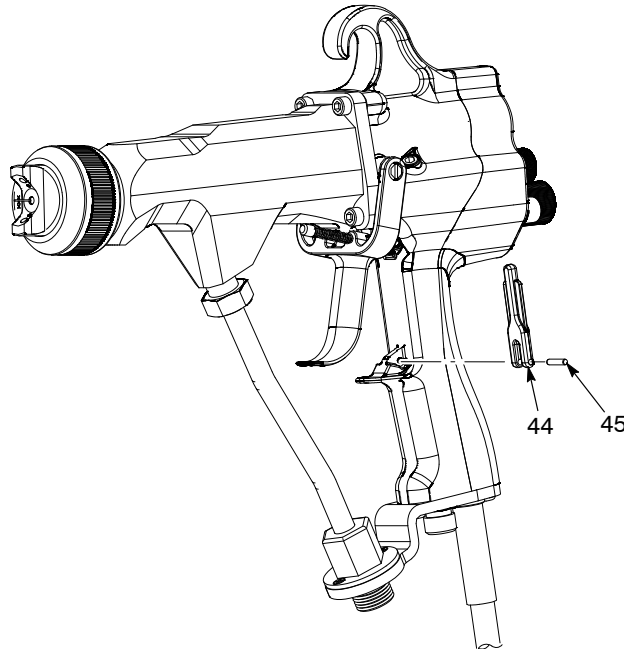

Figure 7-3 Trigger Lock Replacement
1. See Figure 7-3. Drive the pin (45) out of the trigger lock (44) and handle with a small dowel pin.